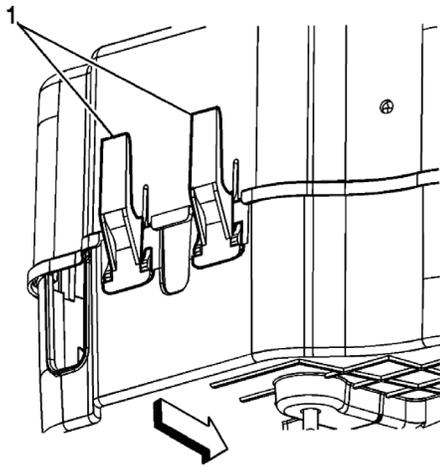

Fig. 2 Battery shield rear snap retainers
7. Disengage battery shield rear snap retainers (1), **Fig. 2**.